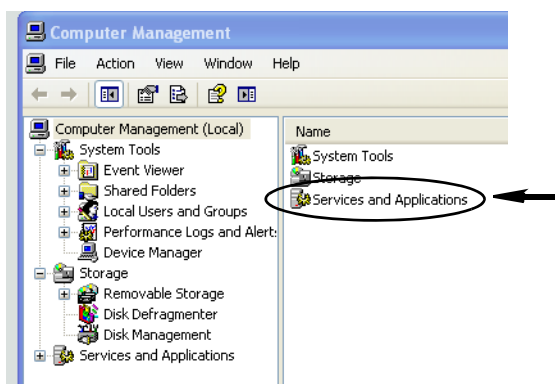

FIG. 35
- b. Double click on Services and Applications (FIG. 35).